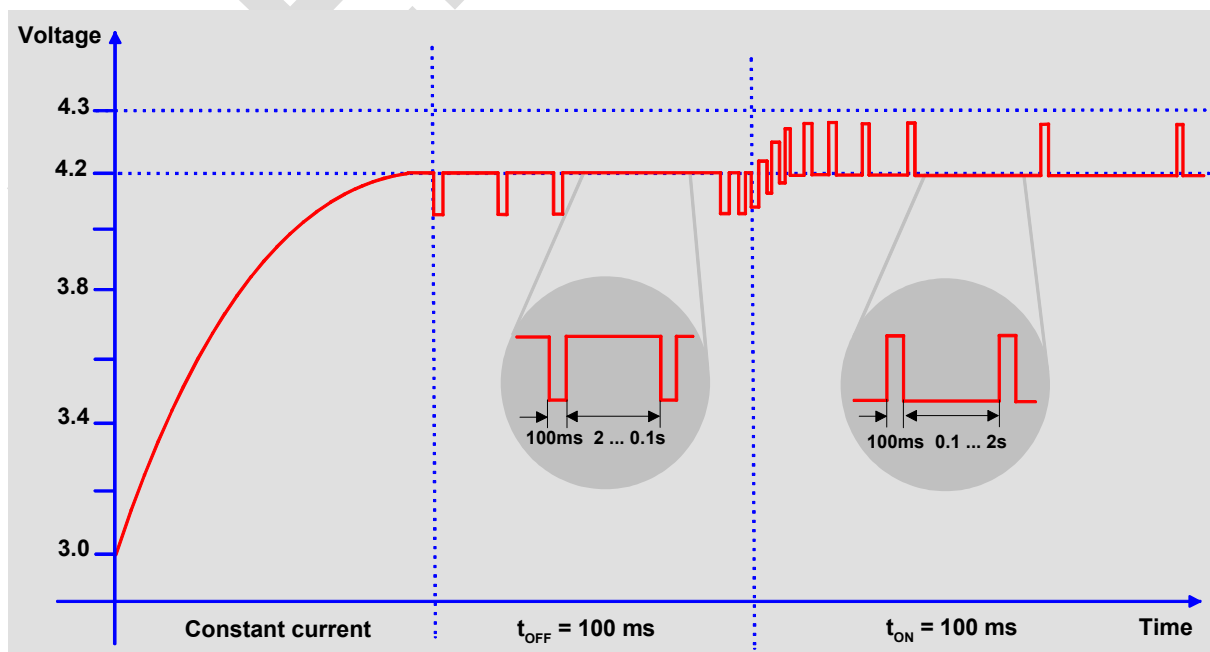

Figure 5: Charging process
- Fast charging delivers a constant current until the battery voltage reaches 4.2V and then proceeds with varying charge pulses. As shown in Figure 5, the pulse duty cycle is reduced to adjust the charging procedure and prevent the voltage from overshooting beyond 4.2V. Once the pulse width reaches the minimum of 100ms and the duty cycle does not change for 2 minutes, fast charging is completed.